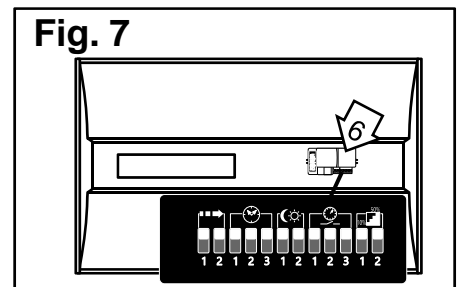

Fig. 7
3. Adjust the **dip switches on the motion sensor** (#6) as desired (**Fig. 7 & 8**).